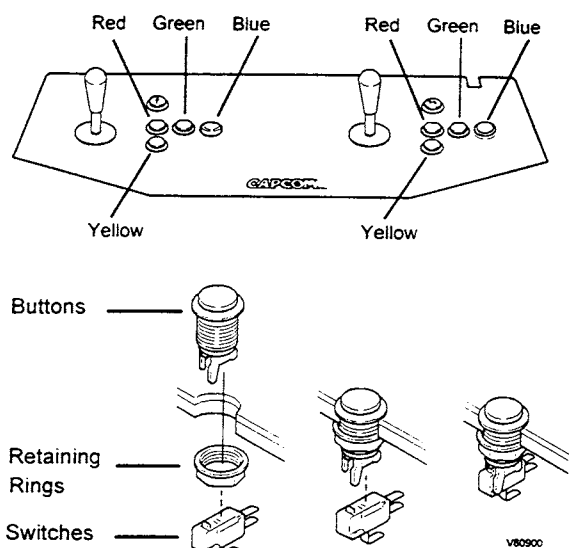

Figure 3: Control Panel Buttons and Switches
16. Install all buttons and retaining rings on the control panel as shown in Figure 3. Install two RED buttons to the immediate right of each joystick, install two GREEN buttons to the right of the red ones.